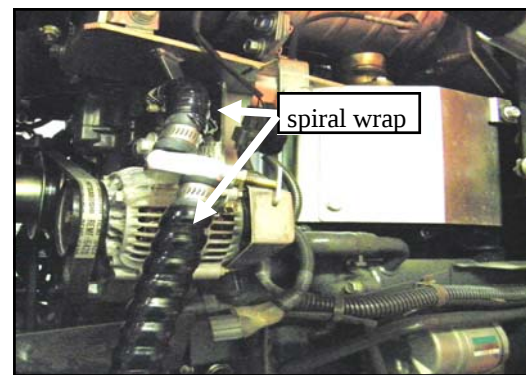

FIG. 2.8
- 2.8 Per figure 2.8, install spiral wrap provided to protect the heater hose from the side engine cover and reinstall cover.